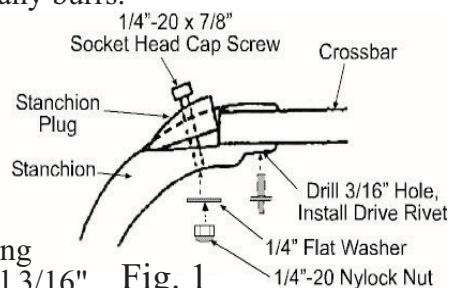

Fig. 1
3. Install stanchion plugs into two stanchions using 1/4"-20 x 7/8" cap screws, 1/4" flat washers and nylock nuts as shown in Fig. 1.
4. Install stanchion plugs into all stanchions using 1/4"-20 x 7/8" cap screws, 1/4" flat washers and nylock nuts as shown in Fig. 1.
5. Slide one stanchion on to end of crossbar, butting end of bar firmly against stanchion plug. While insuring bar remains butted against plug, drill 3/16" hole in bottom of crossbar thru remaining hole on underside of stanchion neck. Install Drive Rivet in drilled hole as shown in Fig. 1, tapping rivet mandrel pin firmly with hammer until flush with rivet head. Repeat for 3 remaining stanchions.